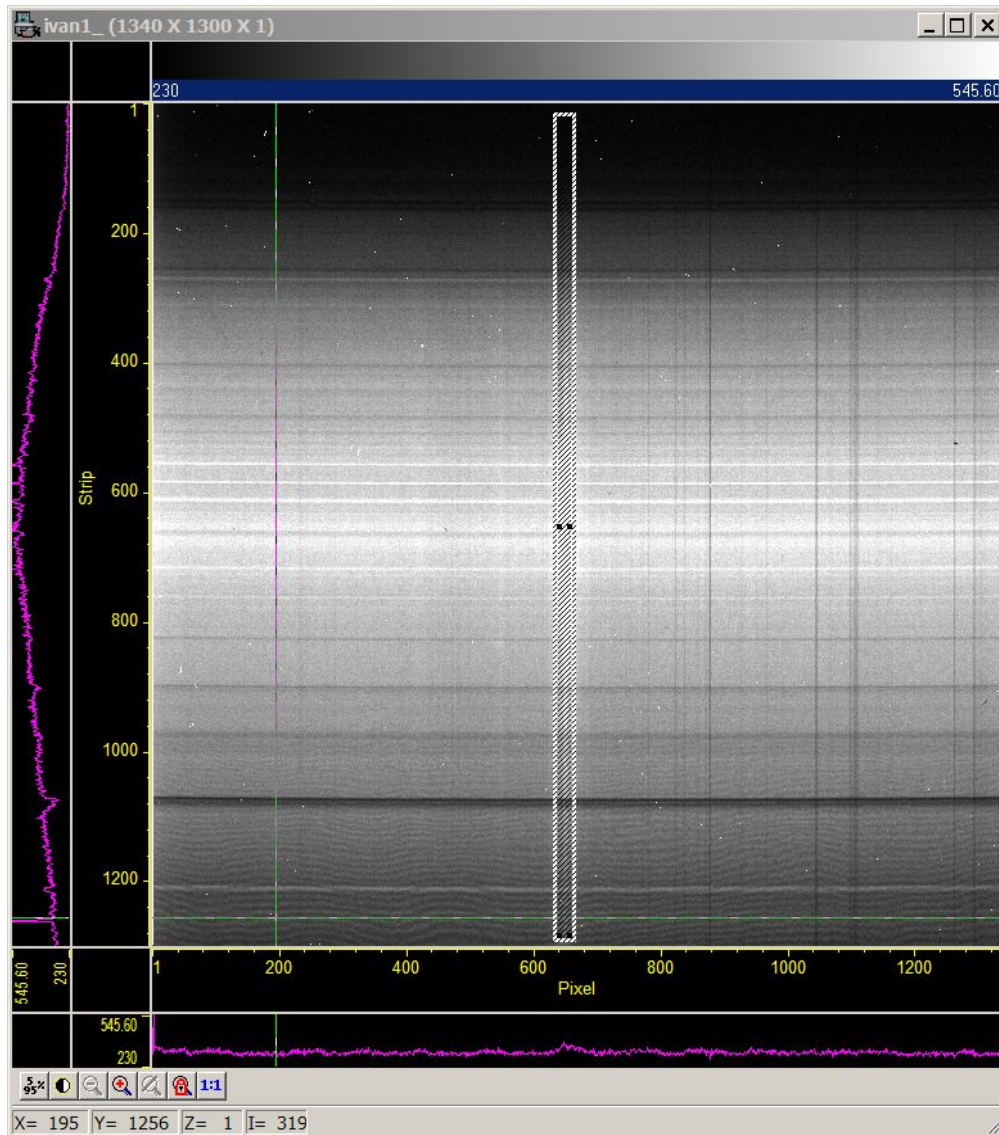
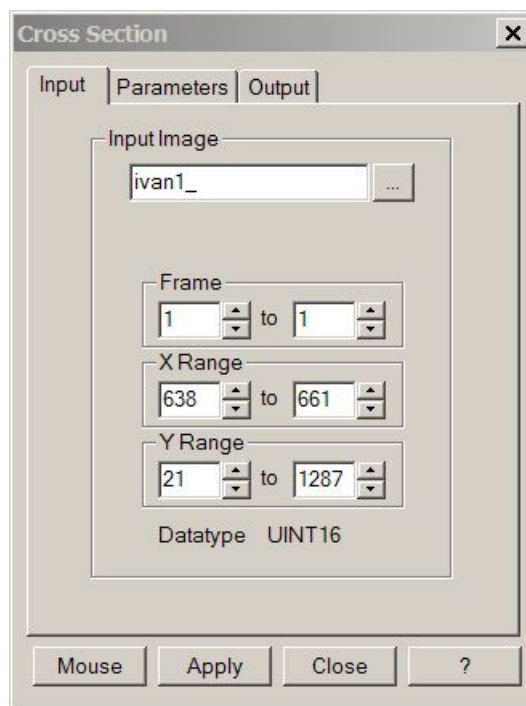

Figure 52
Figure 54
- With the mouse, draw a tight box around the vertical target light dispersion and long as the entire frame (*Figure 52*).
- This command opens a new window (*Figure 54*) which stores the length and width in pixels of the box drawn in *Figure 52*. Now simply press the “Mouse”, “Apply” and “Close” buttons.